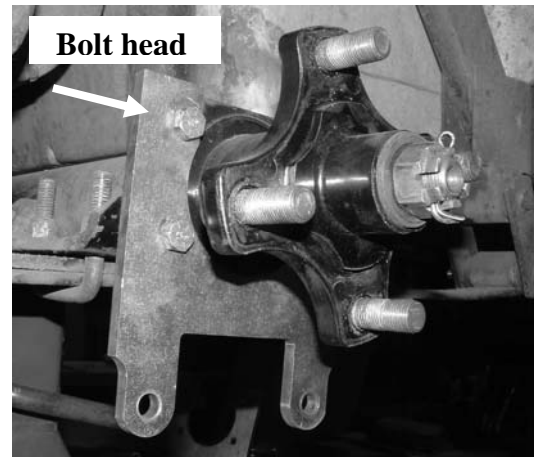

Fig. 6 Installed caliper mounting bracket.
6. Install new brake mounting bracket facing downward onto outside of axle tube bracket. Use the 4 bolts and nuts that were removed in step 2, head of bolt facing outward. Tighten to 18-20 ft-lbs (See Fig. 6)